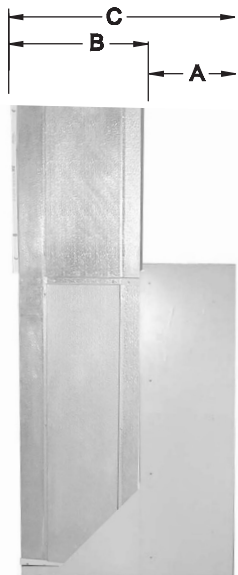

FIGURE 6
9. **New "Flush Style" Architectural Grille** – (See Figure 6) This new grille is an attractive extruded aluminum architectural grille that attaches to the outside face of the wall sleeve. The blades of this unique grille recess into the wall sleeve for a neat, "flush" appearance. Grilles install from the inside of the wall sleeve. Do not install the **SPXA** unit into the sleeve before installing the grille.